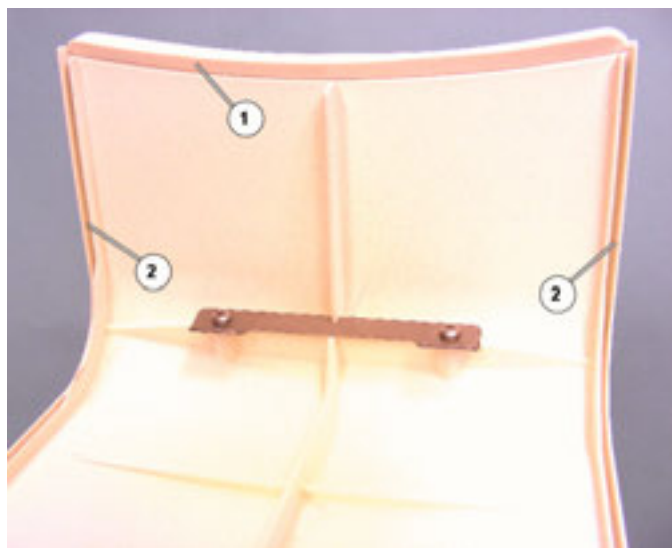

Fig. 115 Cover: End profile and groove
- 14** Check the fitting position of the end profile (Fig. 115/1) of the cover.
- 15** Place the cover on the battery pack so that the groove (Fig. 115/2) of the cover and the tongue engage.